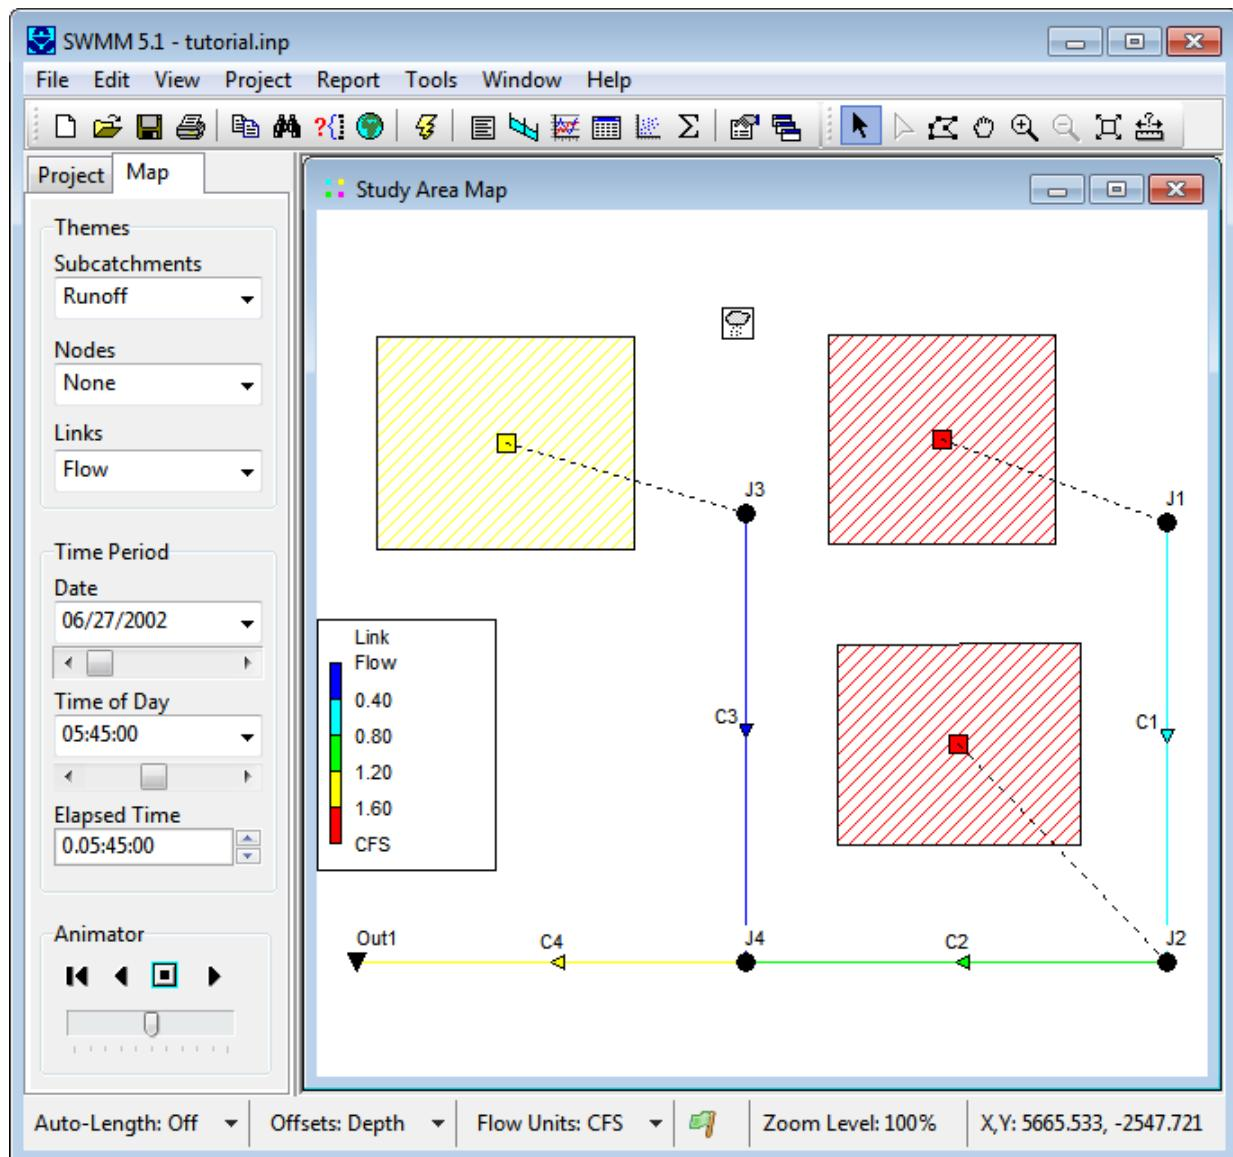

Figure 2-13 Viewing color-coded results on the Study Area Map
2. Select the variables to view for Subcatchments, Nodes, and Links from the dropdown combo boxes appearing in the Themes panel. In Figure 2-13, subcatchment runoff and link flow have been selected for viewing.
6. The Date / Time of Day / Elapsed Time controls on the Map Browser can be used to move through the simulation results in time. Figure 2-13 depicts results at 5 hours and 45 minutes into the simulation.
7. You can use the controls in the Animator panel of the Map Browser (see Figure 2-13) to animate the map display through time. For example, pressing the button will run the animation forward in time.